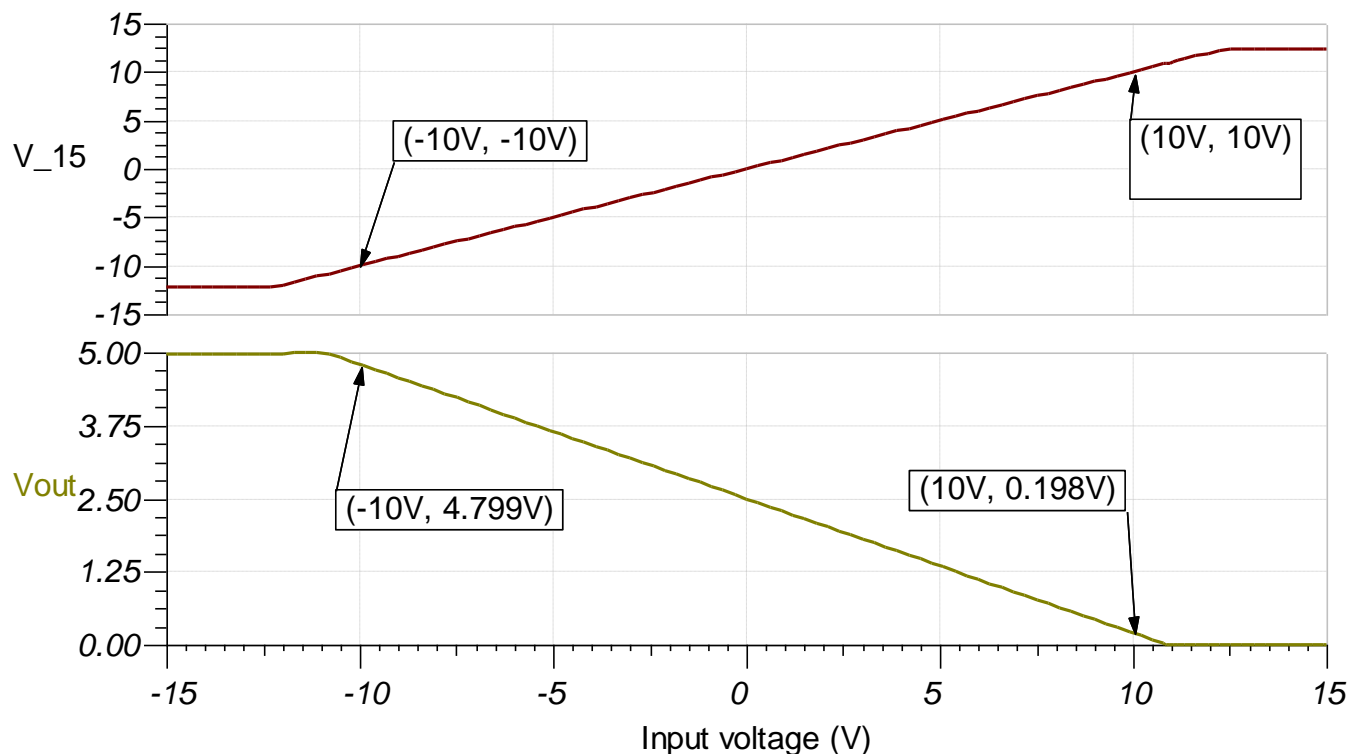
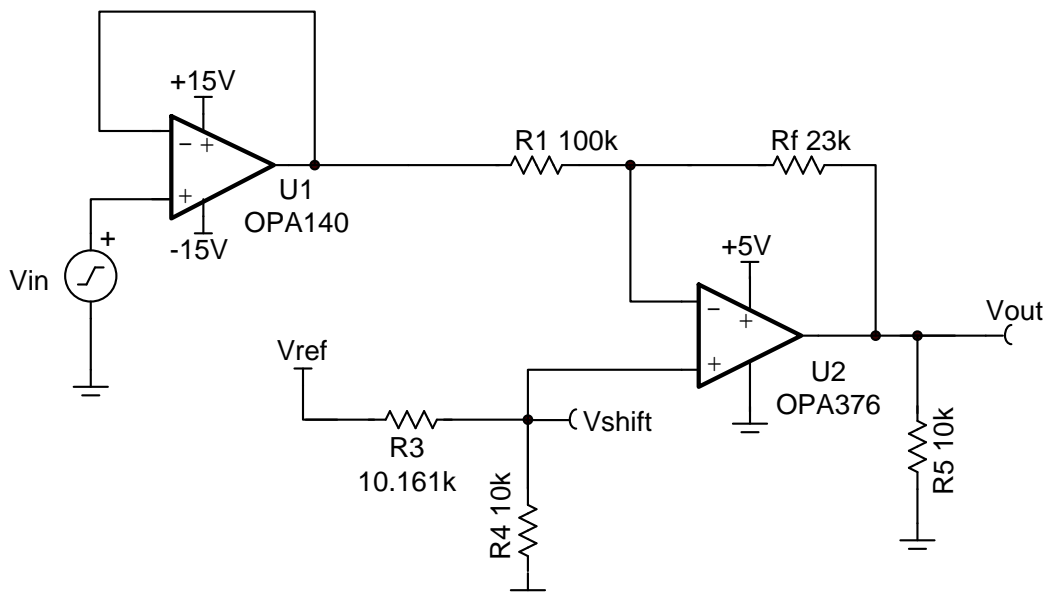

Figure 1: Measured Transfer Function
Figure 2: Complete Circuit Schematic
The design goals and performance are summarized in Table 1. Figure 1 depicts the measured transfer function of the design.
Figure 2 shows the full schematic for the design. The first stage (U1) is a $\pm 15V$ amplifier with a $\pm 10V$ linear output swing. In this example the first stage is shown as a buffer but other $\pm 15V$ configurations can be used. For example an instrumentation amplifier with $\pm 15V$ supplies could be used. The second stage translates the output of the first stage from $\pm 15V$ to single supply 5V to be compatible with ADC inputs. The resistors in the second stage are scaled to attenuate the output from the first stage. A dc voltage (Vshift) is applied to the non-inverting input to shift the polarity of the signal to single supply. Table 2. Input to Output Scaling Table 2 shows the input to output scaling for the design in Figure 1.
The transfer function for the circuit in Figure 2 is given in Equation (1). The equation can be derived using superposition. The first term $(-R_f/R_1)$ is derived by grounding the non-inverting input and considering the amplifier as an inverting amplifier. It controls the attenuation of the level translation amplifier. The second term $(R_f/R_1 + 1)$ is derived by grounding the inverting path, and considering the amplifier as a non-inverting amplifier. This term adds an offset to shift the signal from dual supply to single supply.